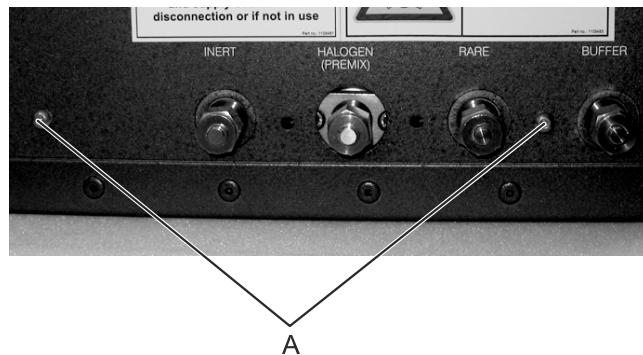

Figure 103: Screws securing gas valve block to bulkhead
25. Use the 2.5 mm allen key to remove the two screws that secure the valve block to the bulkhead (see Figure 103, A).